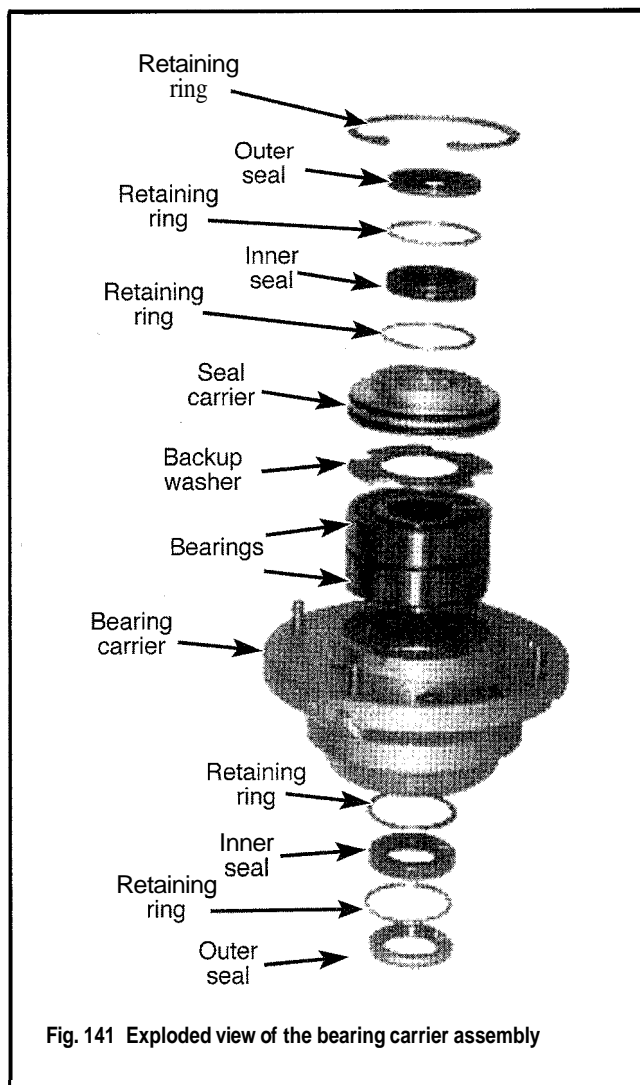

Fig. 141 Exploded view of the bearing carrier assembly
- ◆ See Figures 141 and 142
- ◆ See Figure 141